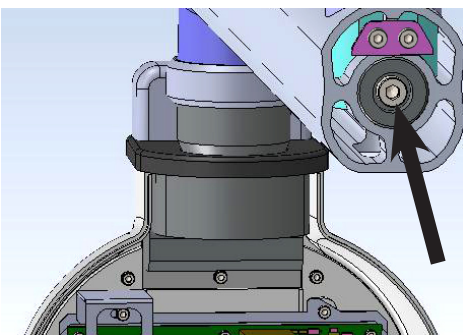

Figure 56
- Fix M8x25 positive lock screw and M8 spring & plane washers to lock the scissor arm to straight arm using 6mm allen key as shown in Figure 56 .